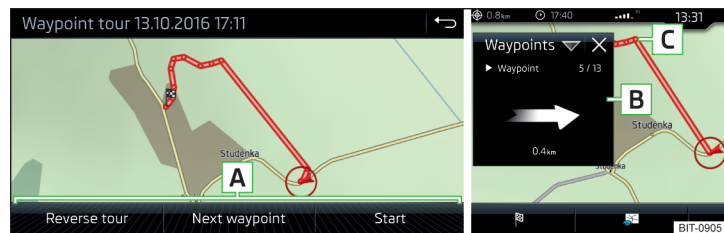

Fig. 240 Display a waypoint / guide along a waypoint tour
- Select one of the following menus **A** » Fig. 240.
While driving along a waypoint tour, the split screen shows the **Waypoints** and the direction to drive as well as the distance to the next waypoint, the sequence number of the next waypoint and the total number of waypoints **B** » Fig. 240.
The waypoint tour from the vehicle position to the next waypoint “reduces” continuously while driving “ ” **C** » Fig. 240 .
- Display the waypoint tour » Fig. 240 on page 198